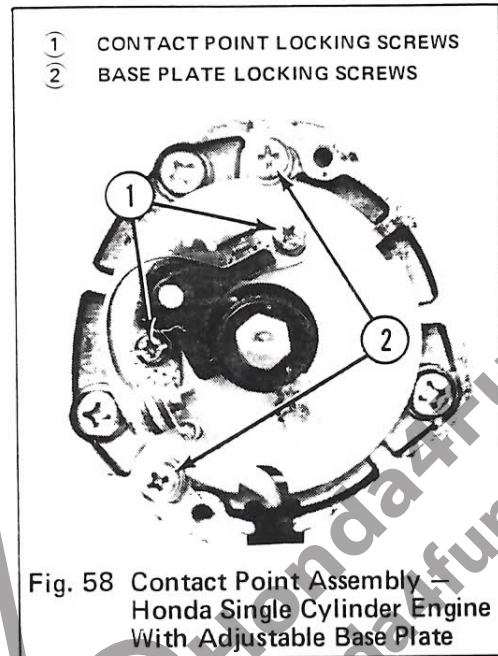

Fig. 58 Contact Point Assembly - Honda Single Cylinder Engine With Adjustable Base Plate
1. Check dwell angle or contact point gap. If adjustment is required, loosen contact point locking screws (1) (Fig. 58). Adjust contact point gap to achieve the dwell angle specified in the shop manual, or adjust gap to 0.3 - 0.4mm (0.012 - 0.016 in.). Tighten locking screws. Recheck dwell angle or gap after locking screws are tightened.
2. Check ignition timing. If adjustment is required, loosen base plate locking screws (2). Rotate base plate to achieve correct ignition timing. Tighten locking screws. Recheck dwell angle or gap, and timing, after locking screws are tightened.